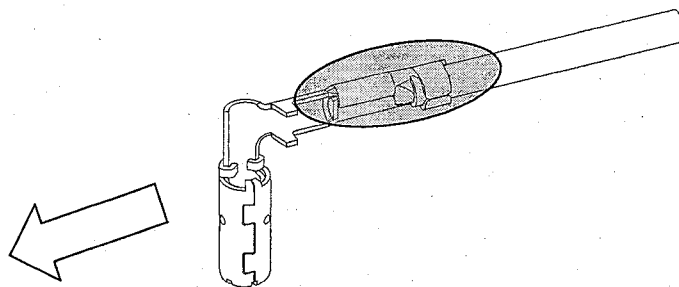

Fig.11
- When to separate parts apart, care must be taken not to jerk and pull forcefully with cross section area. (Fig.11)